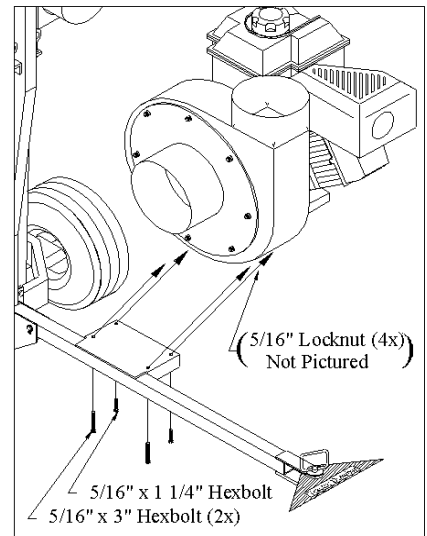

Fig. 6
5. Attach engine assembly to engine frame plate. Secure with two 5/16" x 1 1/4" HHC and two 5/16" x 3" Hexbolts and 5/16" locknuts. Fig. 6